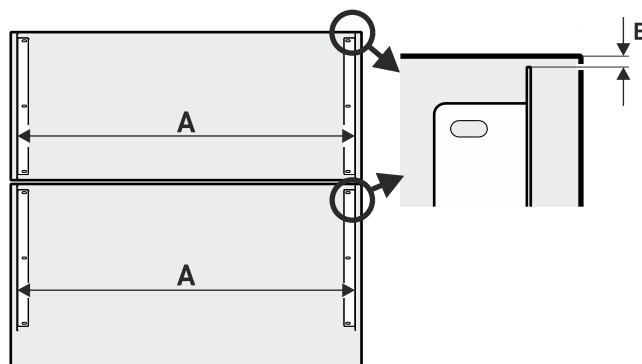

Fig. 39
- Install the mounting bracket accounting for the distance Fig. 39 (A) and distance Fig. 39 (B).